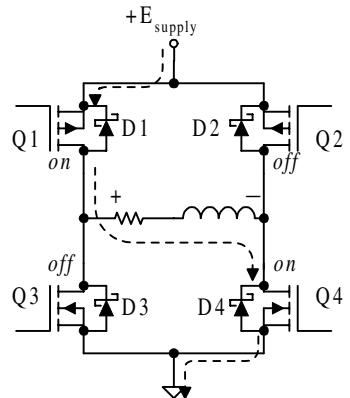

Figure 6-31 Schematic for Problem 6-18
- 6-18** In the circuit of Figure 6-31, transistors Q1 and Q4 are *on* and current flows as indicated. The load has a significant inductance. Explain, in detail how, and which Schottky diodes prevent the flyback when Q1 and Q4 are turned *off*.